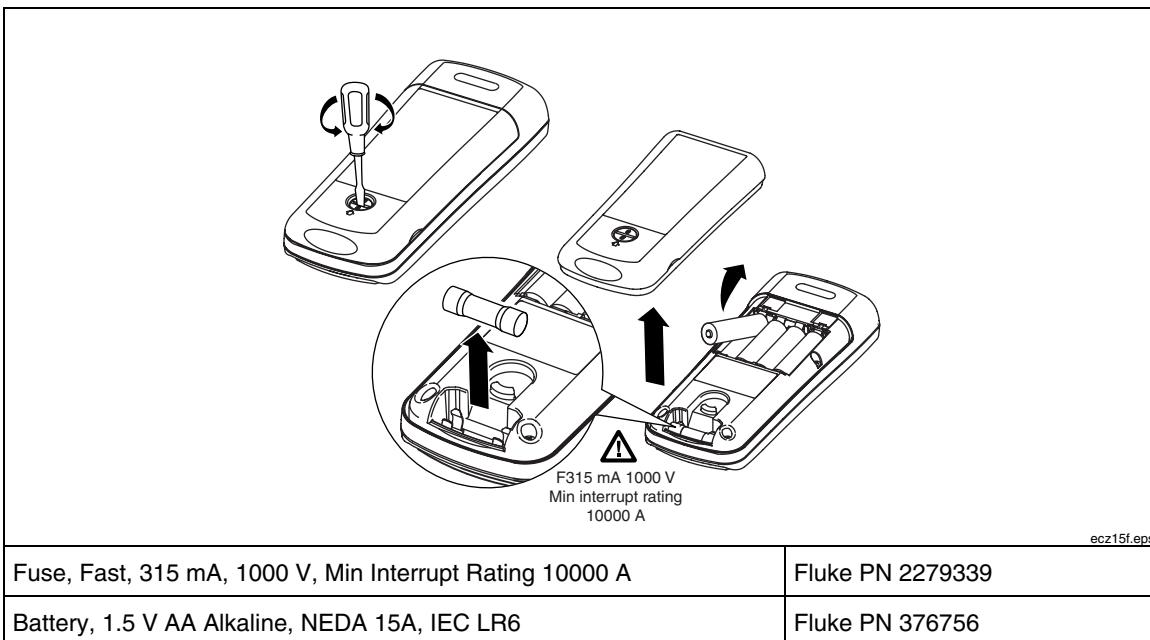

Figure 1. Replacing the Fuse and Batteries
Replace the fuse and batteries as shown in Figure 1. Follow the steps below to replace the batteries.
4. Remove and replace the batteries and or fuse as shown in Figure 1.
4. If necessary, remove and replace the batteries and/or fuse as shown in Figure 1.